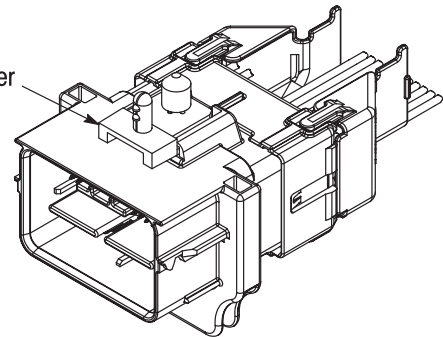

Figure 7
1. Align the body clip with the mating face of the cap connector so that the end of the base faces the end of the hold-down retainer of the cap connector. See Figure 7, Detail A.
2. Slide the body clip onto the hold-down retainer until it is fully seated (there will be an audible or haptic “click”). See Figure 7, Detail B.